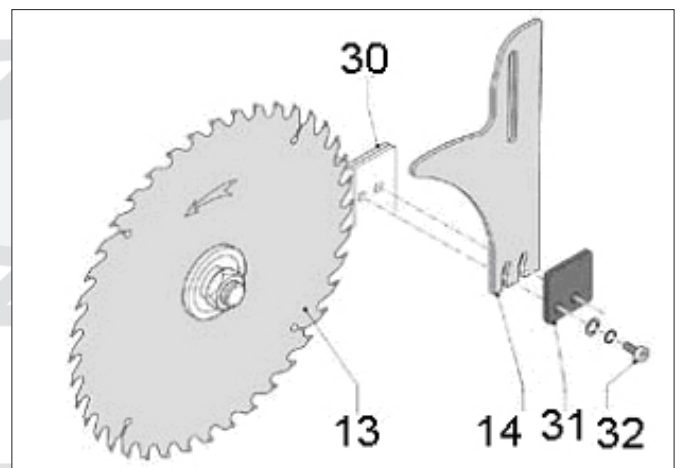

Figure 8
Turn the saw depth adjustment handle so the saw blade is in its highest position. Remove the table inlay (33). Undo the hexagon-head screw (32) and push the cleaver blade (14) down onto the screw between the bracket (30) and the clip (31). Adjust the cleaver blade so the top of it protrudes a maximum of 20 mm above the saw blade, and around 3-8 mm away from it. Screw on the hexagon-head screw and replace the table inlay as shown in figure 8.